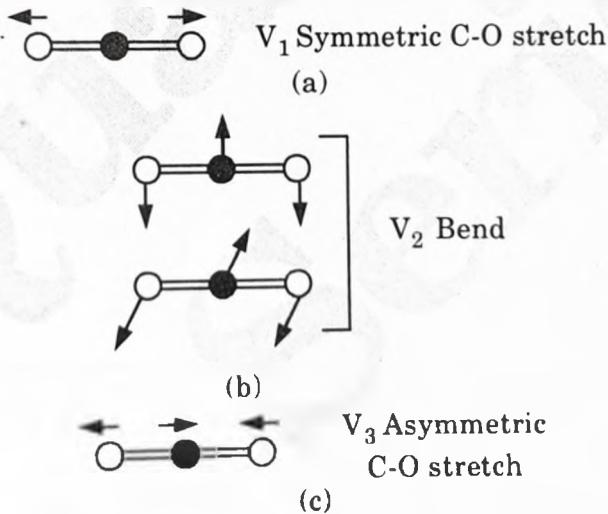

Fig. 1. Vibrational modes of CO_2 .
1. The symmetric stretch does not result in a change (of the initially zero dipole moment), so it is IR active. (See Fig. 1(a))
2. The asymmetric stretch does result in a change in dipole moment so it is IR-active (See Fig. 1(c))
3. The bend also results in a change in dipole moment so it too is IR active (See Fig. 1(b))